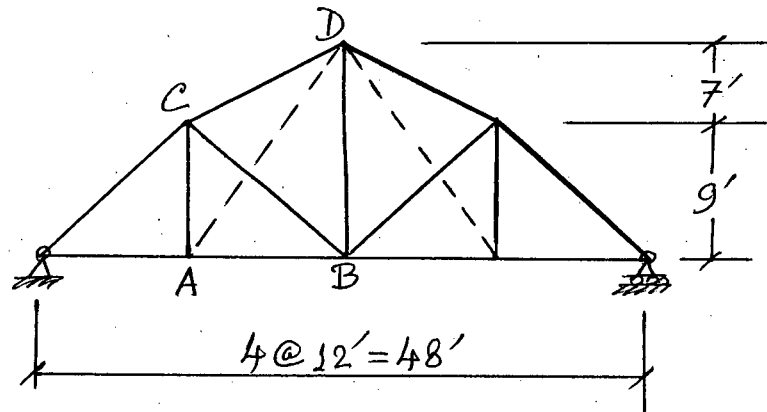
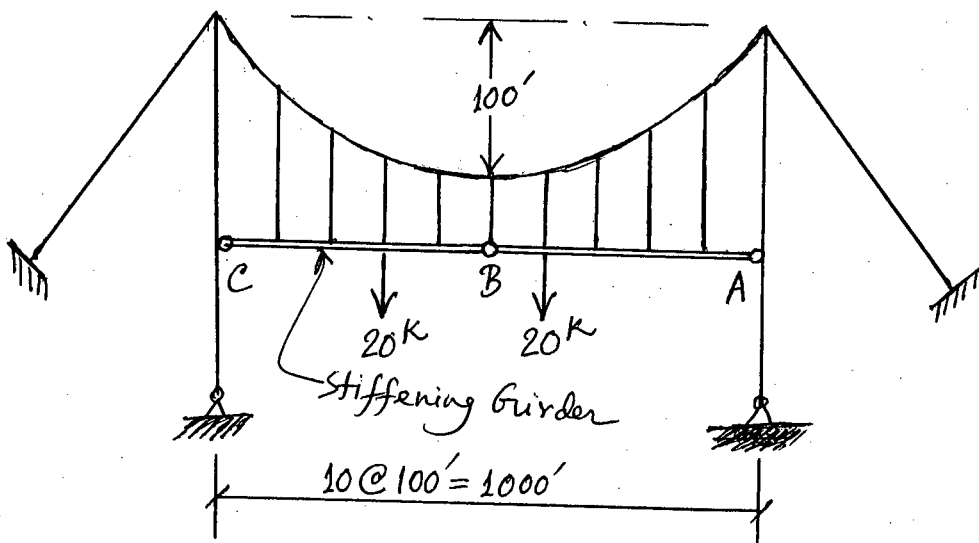

Fig. 9
Fig. 10
11. Calculate the force in the counter AD of the truss shown in Fig. 9 due to a moving UDL of 10 kip/ft accompanied by a roving concentration of 90 kip. The dead load of the truss is 2 kip/ft. (21)
12. State and derive the General Cable Theorem. (21)
13. A cable has a span of 500 ft and a sag ratio of $\frac{1}{40}$. The slope of the cable chord is defined by $\tan \gamma = 0.7$. The load on the cable is 1 kip/horizontal. ft. Find (a) the slope of the cable at 400 ft. from the left support, (b) maximum tension in the cable, and (c) the length of the loaded cable. (21)
14. Draw shear force and bending moment diagrams for the stiffening girder of the suspensions bridge shown in Fig. 10. (20)